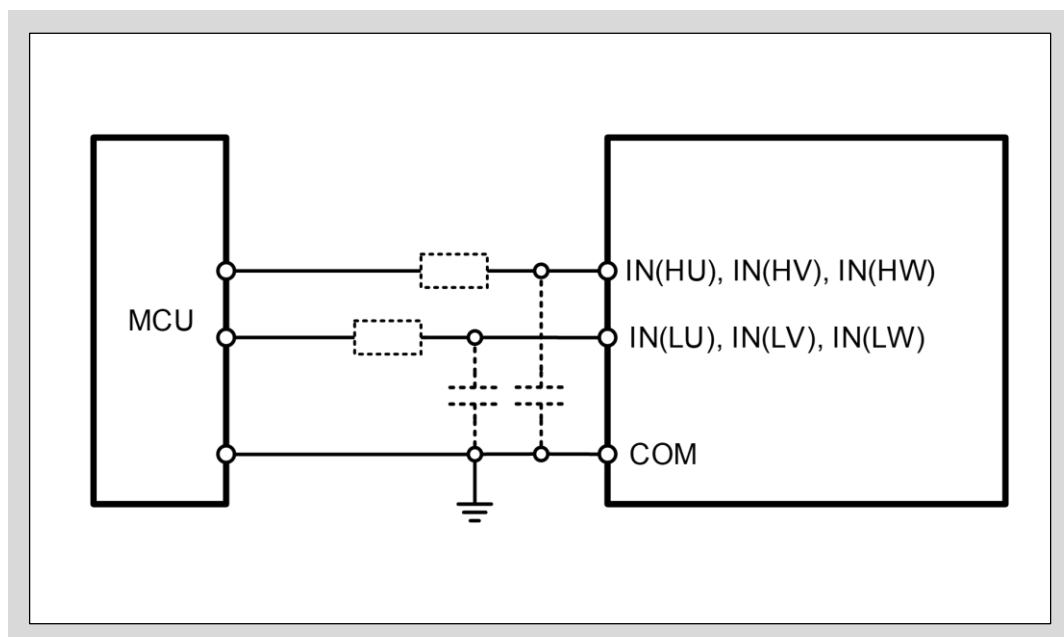
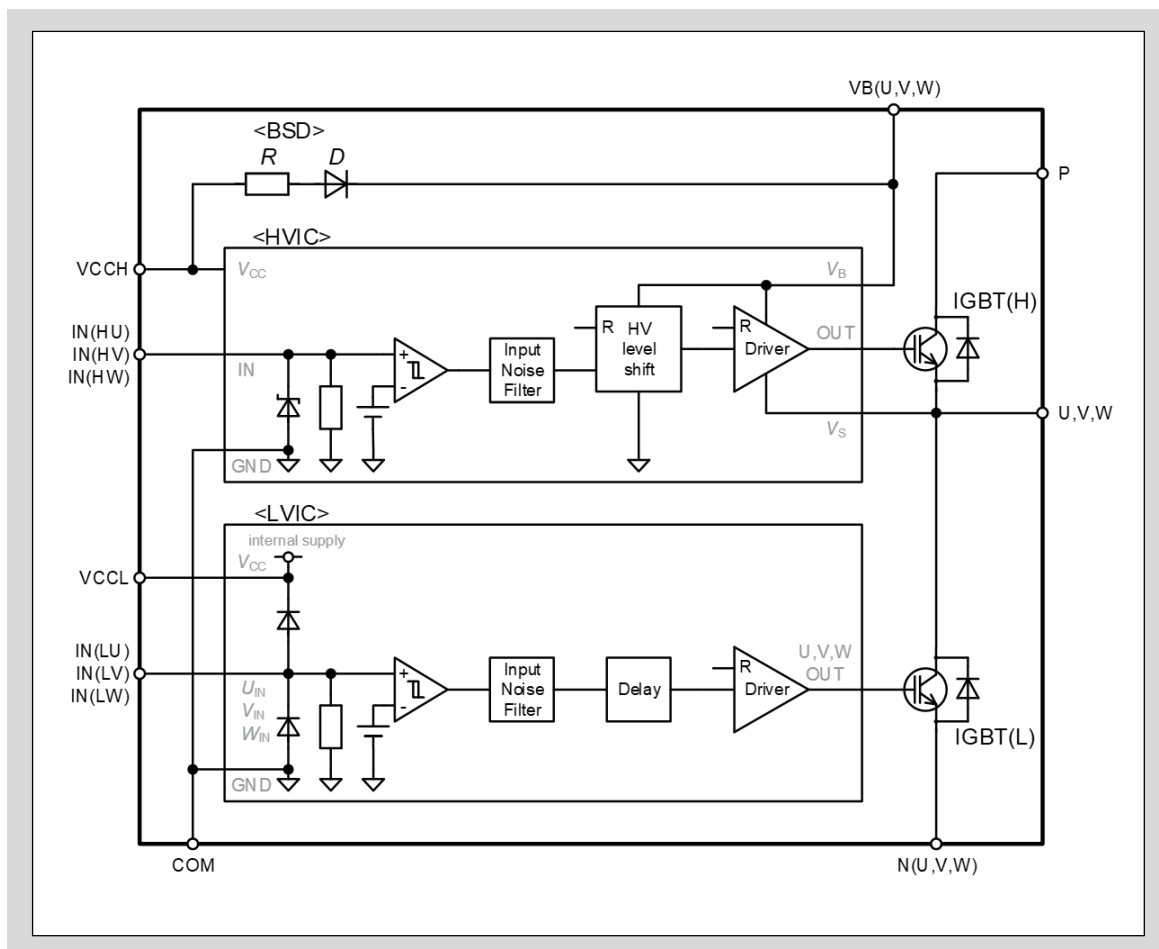

Fig.3-15 Recommended MPU I/O Interface Circuit of IN(HU,HV,HW), IN(LU,LV,LW) terminals
Fig.3-16 Input terminals IN(HU, HV, HW), IN(LU, LV, LW) circuit
- Fig.3-15 shows the input interface circuit between the MPU and the product. The input terminals can be directly connected to the MPU. The input terminals have built-in pull down resistors, thus external pull-down resistors are not required. Also, the input logic is active high, thus external pull-up resistors are not required.
- If the signal wiring is long and noise is superimposed, insert RC filter circuit indicated by the dotted line in Figure 3-15. Adjust the R and C constants according to the PWM control method and wiring pattern of the PCB.
- The input logic of this product is active high. This logic has removed the sequence restriction between the control power supply and the input signal during startup or shut down operation. Therefore it makes the system fail safe. In addition, pull-down resistors are built into each input terminals in Fig.3-16. Thus, external pull-down resistors are not needed and reduces the number of system components. Furthermore, by setting the input threshold voltage low, a 3.3V-class MPU can be connected directly.
- As shown in Fig.3-16, the input circuit integrates a pull-down resistor. Therefore, when using an external filtering resistor between the MPU output and input of the product, please consider the signal voltage drop at the input terminals to satisfy the turn-on threshold voltage requirement. For instance, $R=100\Omega$ and $C=1000\text{pF}$ for the parts shown by the dotted line in Fig.3-15.
- Fig.3-16 shows that internal diodes are connected to the VCCL-IN(LU, LV, LW) and IN(HU, HV, HW, LU, LV, LW)-COM terminals. Do not use these diodes for voltage clamp purpose otherwise the product might be damaged.